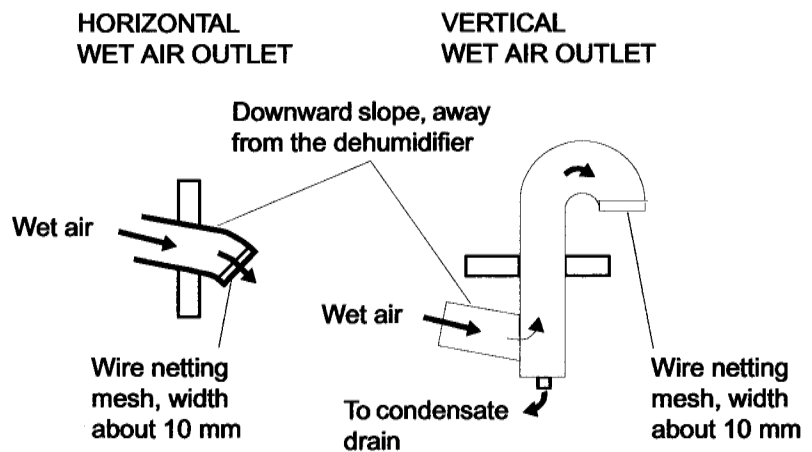

Figure 2-3. Wet air outlet design
- Horizontal (reactivation) duct-runs should be installed sloping downwards (away from the dehumidifier) to allow for condensate drainage. On the wet air outlet ducting, suitable condensate drains should be appropriately installed at low points in the ductwork. Refer to *figure 2-3*.